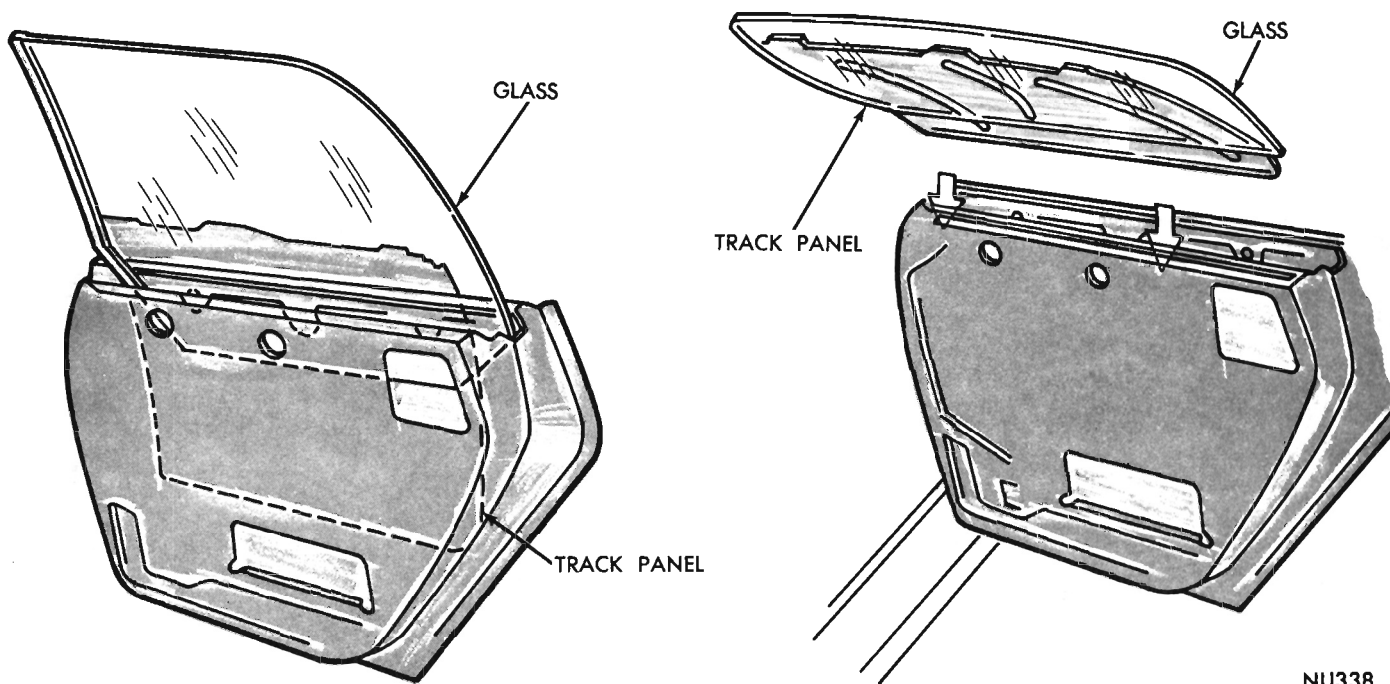

Fig. 30 - Glass and Track Panel Replacement
(7) Raise track panel completely and remove glass and panel assembly (Fig. 30).